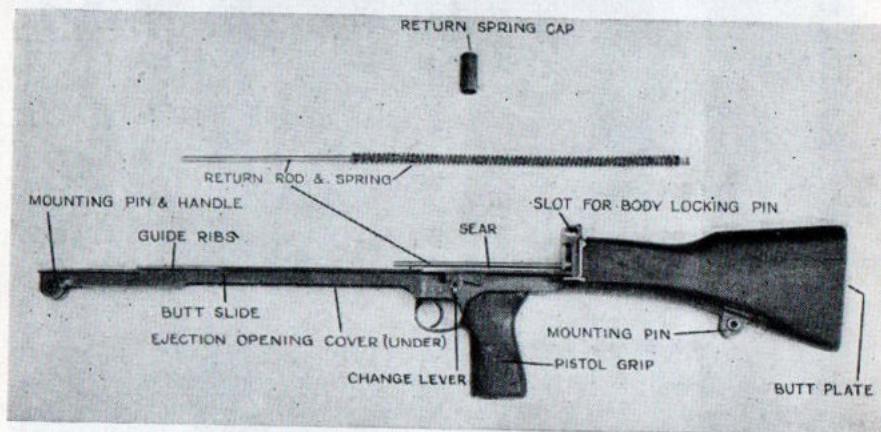

Fig 4.—The butt group
15. The butt group (see Fig 4).—To strip it, raise the barrel nut (Mark 1 guns only), and pull it away from the rest of the gun